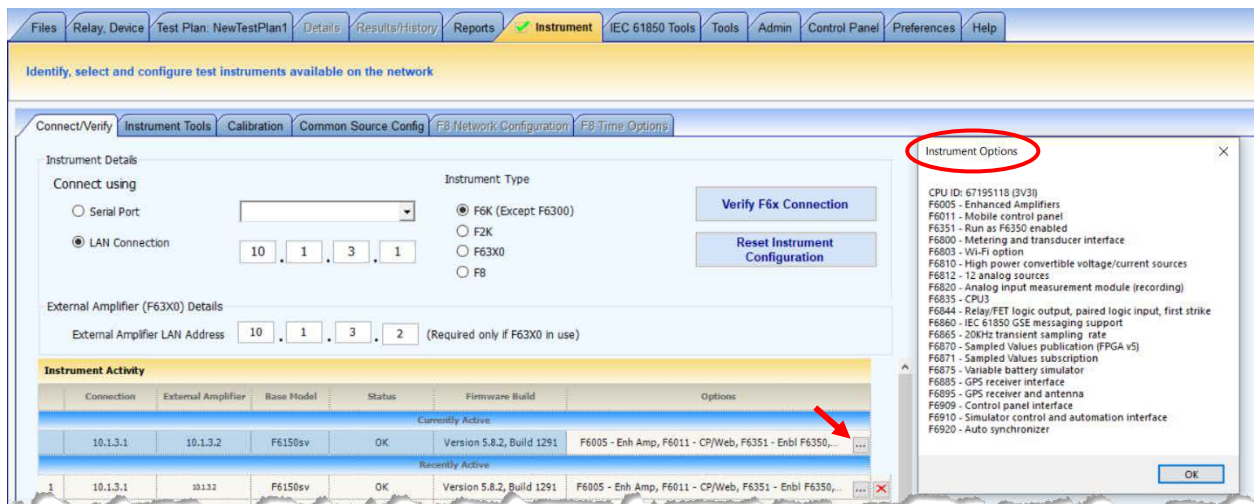

Figure 5. F6150 instrument options before firmware update
- 19) Click the box with the ellipsis (three dots) to view the instrument options (see Figure 5)